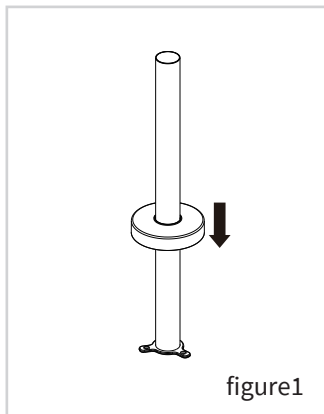

figure1
2. Place the flange on the standpipe and push it onto the middle of the standpipe. (figure1)